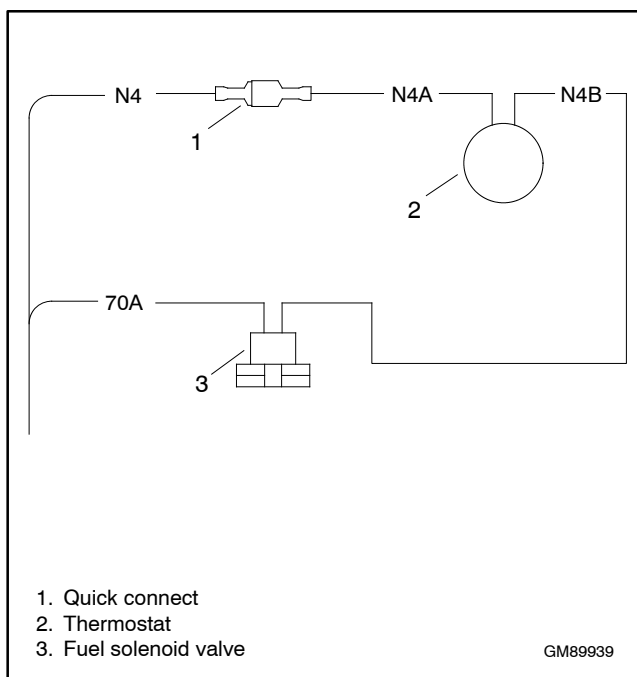

Figure 7 Wiring Diagram
16. Use one of the wiring leads provided (N4A or N4B) to connect the disconnected lead (N4) to the thermostat. See Figure 7.
17. Use the remaining wiring lead (N4A or N4B) to connect the thermostat to the fuel solenoid valve. See Figure 7.